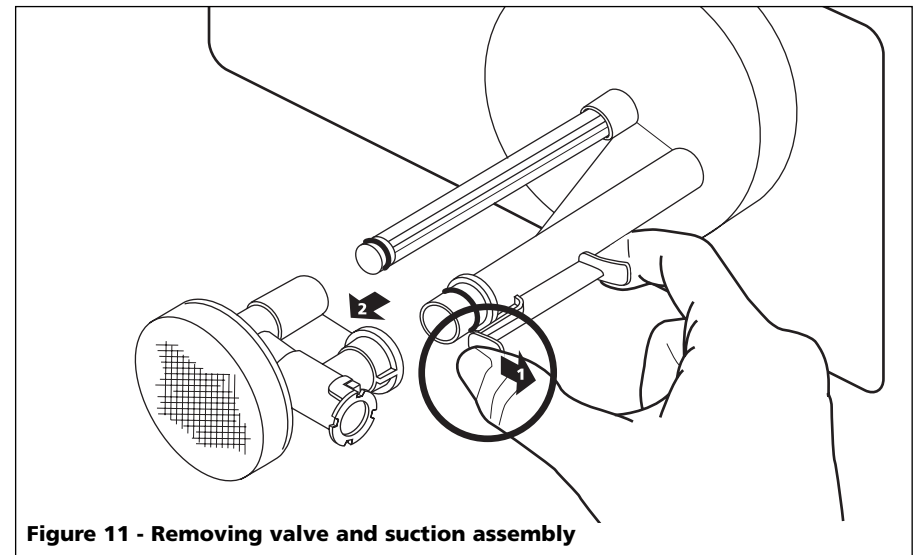

Figure 11 - Removing valve and suction assembly
*(See Figures 11 & 12 for valve disassembly.)
1. Remove valve and suction assembly as shown in Figure 11.